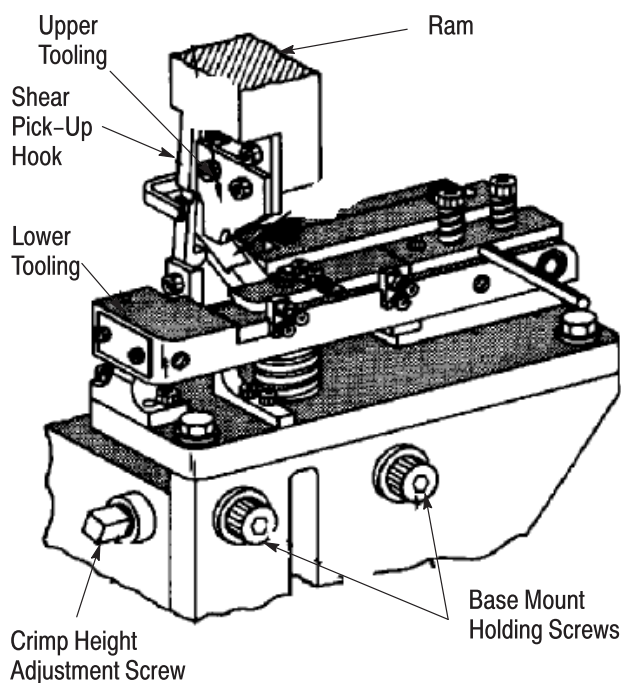

Figure 3
2. Loosen the two base mount holding screws and turn the crimp height adjustment screw "down" until the base mount is at it's lowest point. See Figure 3.
4. Pull the ram toward you and place the shear pick up hook under the shear blade. Refer to Figure 3.
3. Loosen the two base mount holding screws. Refer to Figure 3.